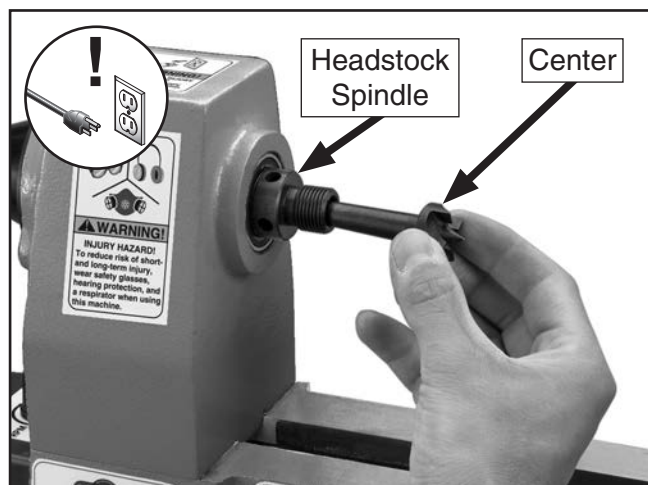

Figure 14. Installing center in headstock spindle.
3. Insert tapered end of center into spindle, and push it in with a quick, firm motion, as shown in **Figure 14**.